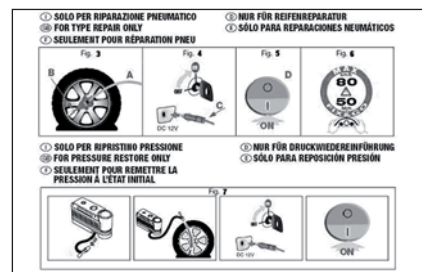

fig. 12
- ☐ instruction brochure **fig. 12**, used for prompt and proper use of the quick repair kit and to be then handed to the personnel charged with treating the tyre repaired with the kit;